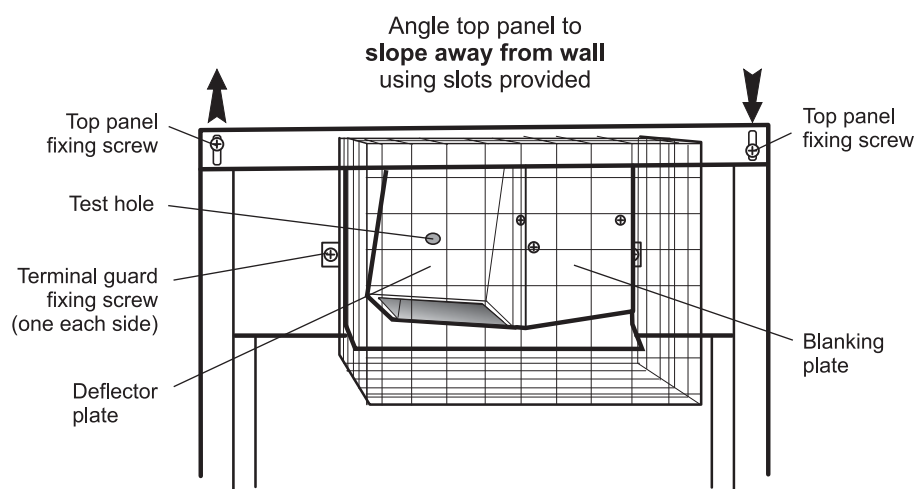

Fig. 12
- 4 If the boiler is to be fitted either against or within 600 mm of a wall, temporarily remove the protective packing from the flue terminal and ensure that the flue deflector plate (see Fig. 12) is on the side of the terminal that will face away from the wall. If necessary, the deflector plate and flue blanking plate may have to be removed and their positions reversed on the terminal. Ensure that the deflector opening is pointing downwards.
- 5 The top panel of the casing has been designed so that it may be fitted to create a slight slope away from the side positioned against the wall. To tilt the top panel, loosen the four top panel casing screws, one at each corner and push down on the side furthest from the wall. Tighten the screws. See Fig. 12.